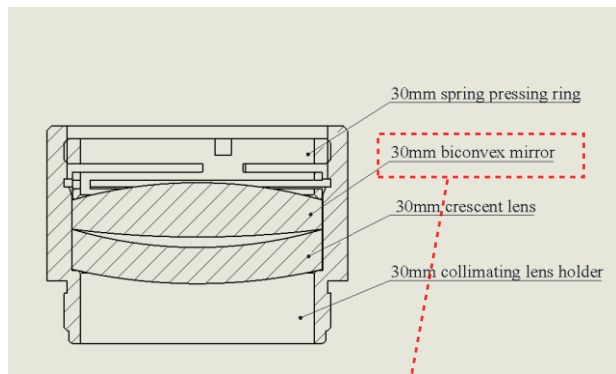

Figure 12 Installation diagram of 100 collimation 30 crescent lens
- As shown in Figure 12, reassemble the collimating mirror assembly in sequence. Note that the spring pressing ring is tightened properly and re-threaded into the FRA assembly;